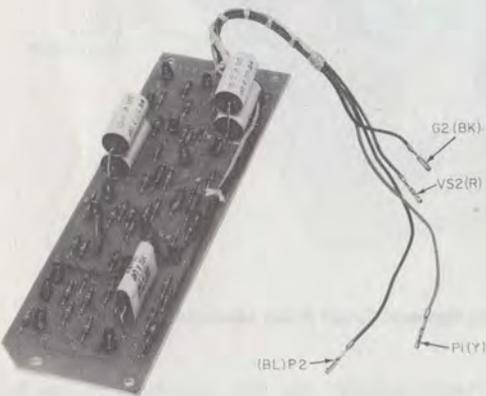

Fig. 5—KS-20721, List 11 Pulse Corrector
- Corrector, Pulse, KS-20721, L11 (Fig. 5, see 2.04).
**2.04** The KS-20721, List 11 pulse corrector (Fig. 5) is not required for initial installations. It shall be used only after it has been determined that the dial pulses received from CPE meet all requirements specified in the Technical Reference and pulsing problems still exist. It should not be used to correct poor customer pulses. When adding the List 11 pulse corrector to the List 1 coupler, remove wiring option Q and provide option V as shown in Table B.